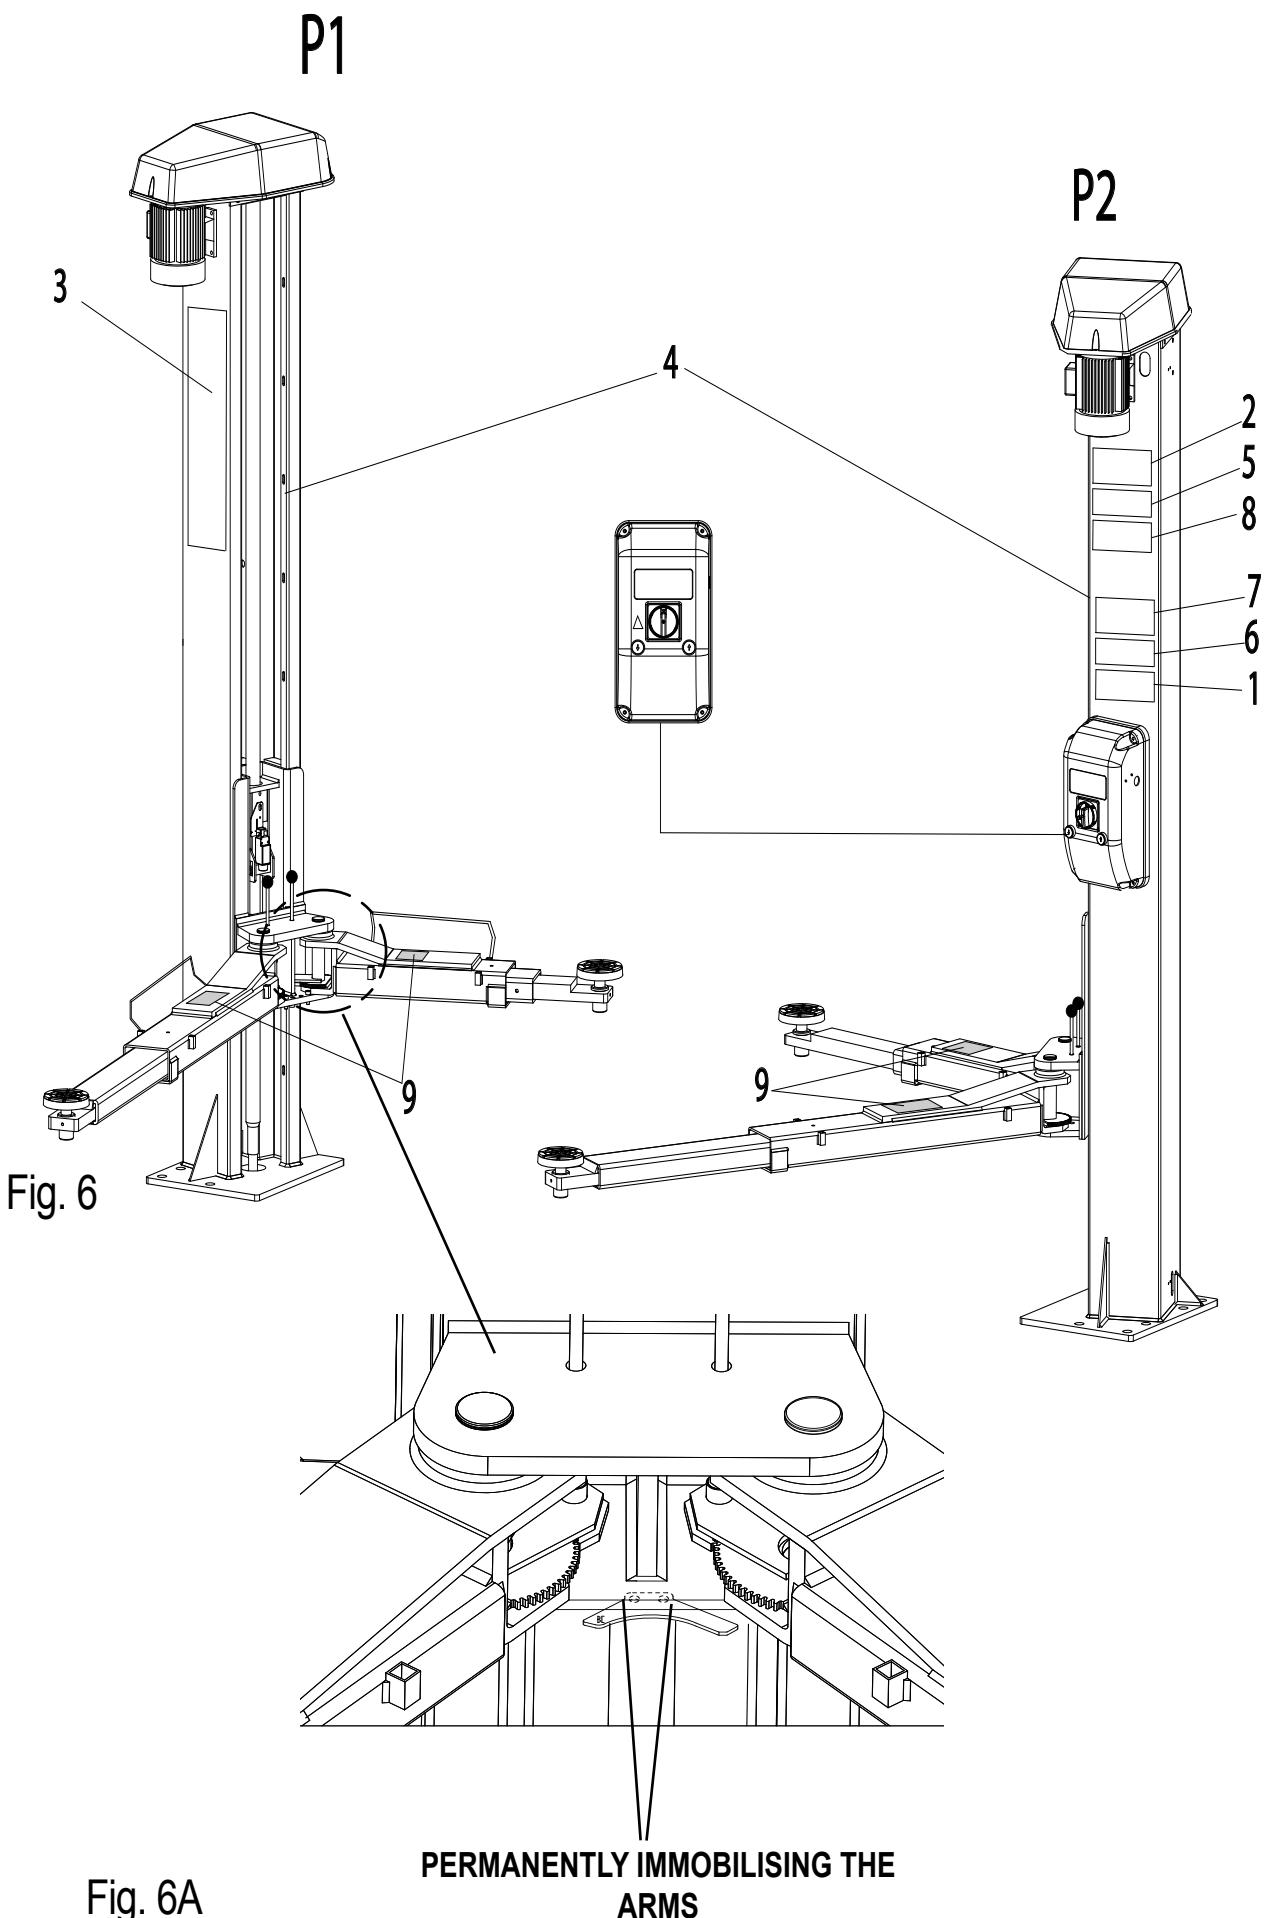

Fig. 6A
- **WARNING:** never remove the arm immobiliser screws for any reason. This device is required for compliance with regulation 1493:2010. The company cannot be held liable for any damage or injury caused by incorrect use of the lift. Removing this device (Fig. 6A), which is installed on the carriage by the constructor, causes the lift to no longer comply with applicable legislation.